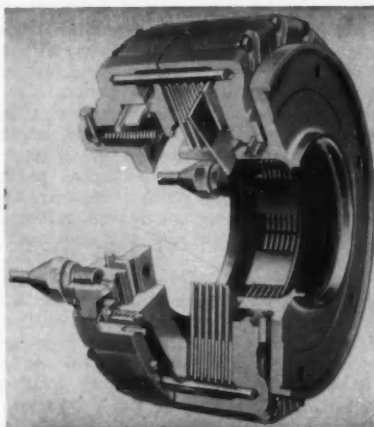

Fig. 1—Cutaway view of Ausco oil-cooled, multiple-disc brake-retarder for heavy-duty trucks. Tests indicate a lining service life of 300,000 miles.
**A**N OIL-COOLED, multiple-disc brake for service braking and retarding has been developed and tested by Auto Specialties. Fig. 1 shows the construction of the unit.